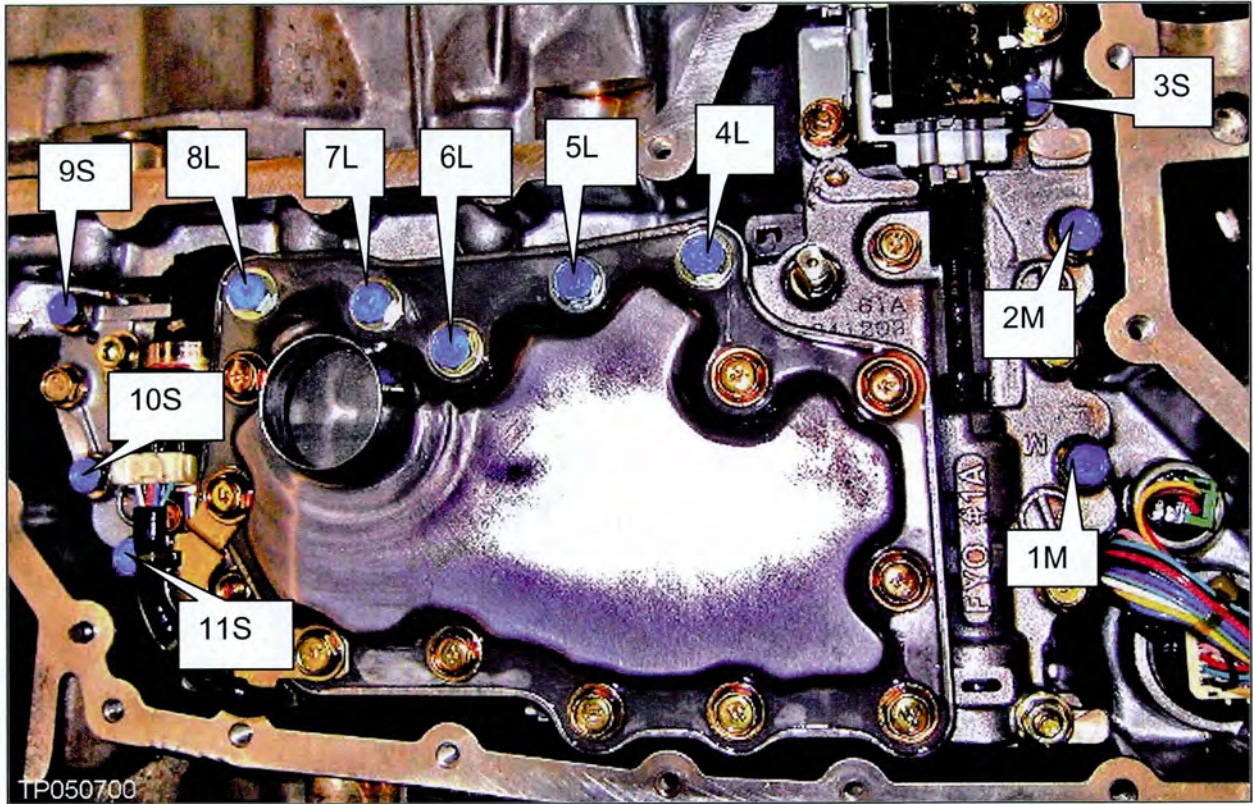

Figure 7
13. Remove the bolts attaching the valve body to the transmission (see Figure 7).
- There are eleven (11) bolts shown and numbered for convenience.
- There are three (3) different length bolts which are identified by:
18. Install finger tight the eleven (11) valve body bolts removed on Page 7, Step 13.
- Make sure the different lengths of bolts are installed in the correct holes (see Page 7, Figure 7).
19. Torque the eleven (11) valve body bolts.
- Torque sequence as per Figure 7, Page 7: 6-7-5-8-4-9-3-10-2-11-1.
- Refer to Figure 7 for bolt numbering and position.